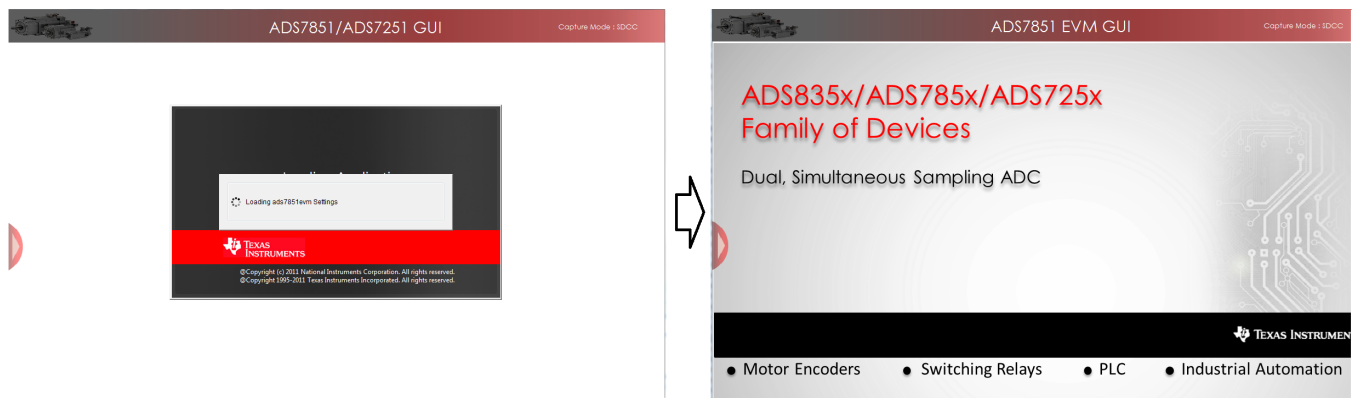

Figure 14. GUI Display Prompt
- Step 3. Verify that the software detects the ADS7851EVM. The GUI identifies the EVM hardware that is connected to the controller board and displays *Loading the ADS7851evm Settings*. After the settings are loaded, *ADS7851EVM GUI* displays at the top of the GUI screen, as shown in Figure 14.